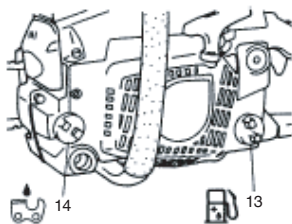

Fig. 9
⚠ WARNING (Fig. 9)
Chain oil (Fig. 9)
When pouring fuel (13) or chain oil (14) into the tank, place the unit with cap side up. (Fig. 9)